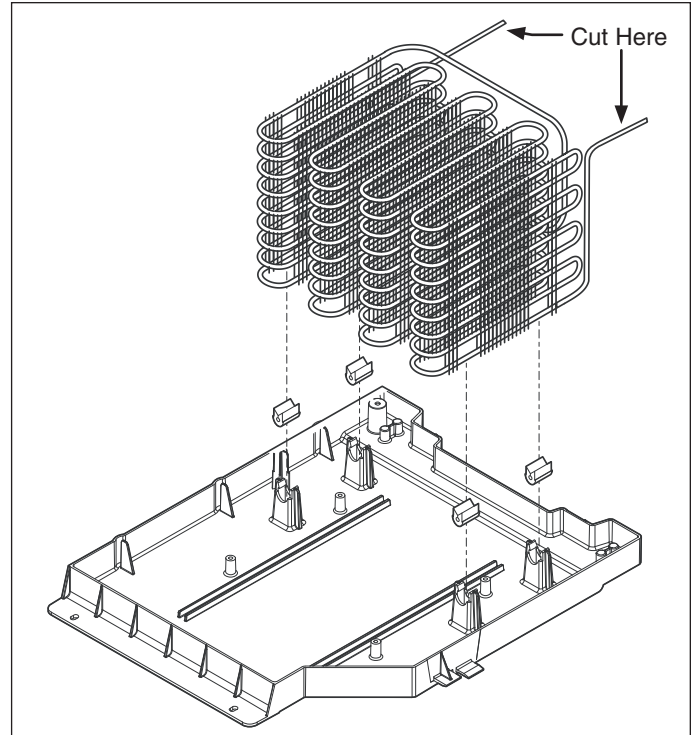

Figure 6-33. Condenser Coil Removal
5. Disconnect inlet and outlet lines from condenser. (See Figure 6-33)